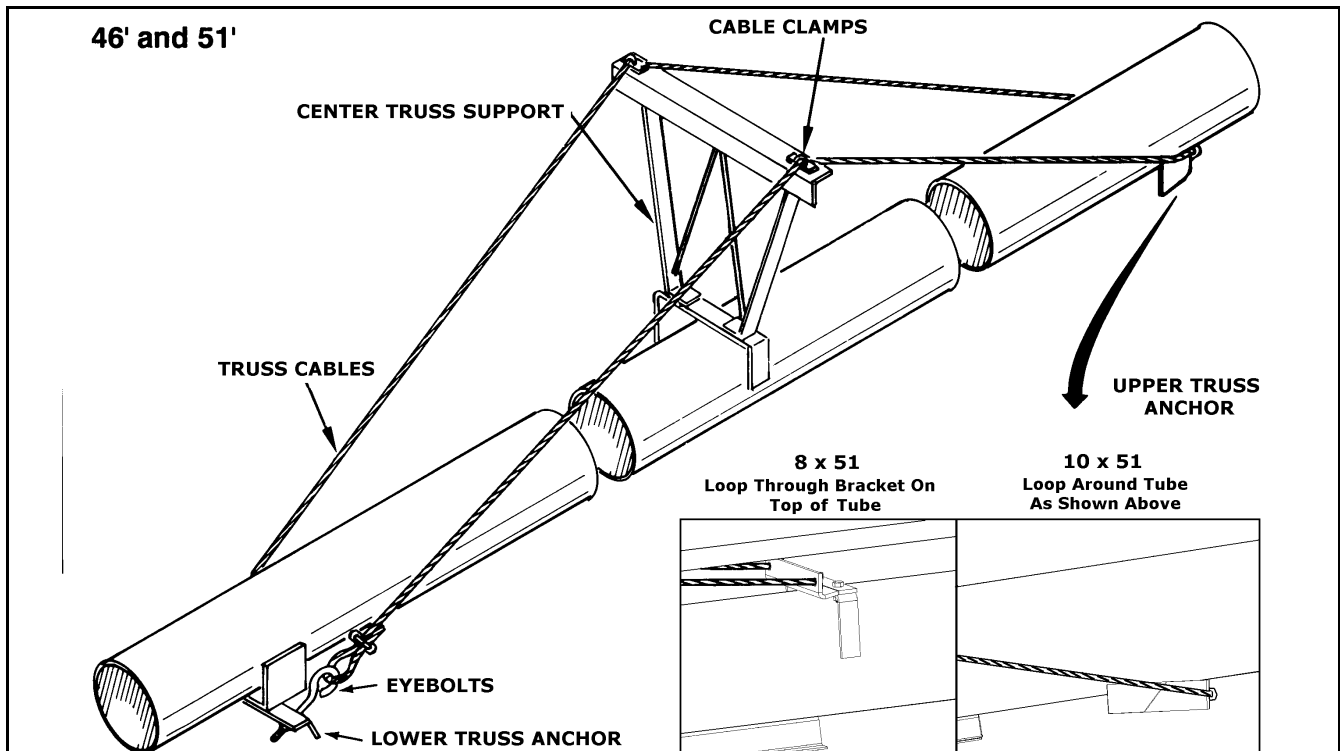

Figure 3.13
2. Fasten the center truss support bracket on 46' and 51' augers with two 7/16" x 1" bolts and locknuts (Figure 3.13).
Important: Where applicable, make sure that the lower reach arms are attached to the proper reach arm bracket (Figure 3.13, 3.14).